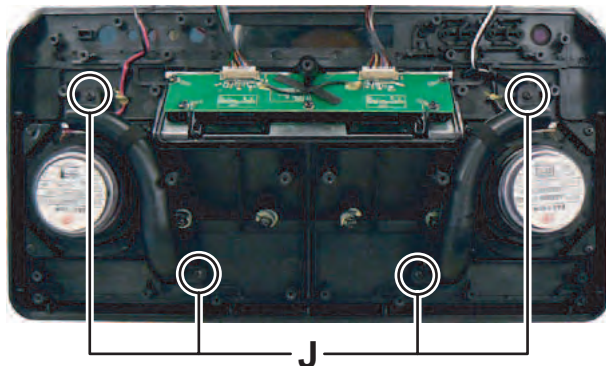

Fig.10
- (2) Remove the four screws **J** attaching the Duct. (See Fig.10)